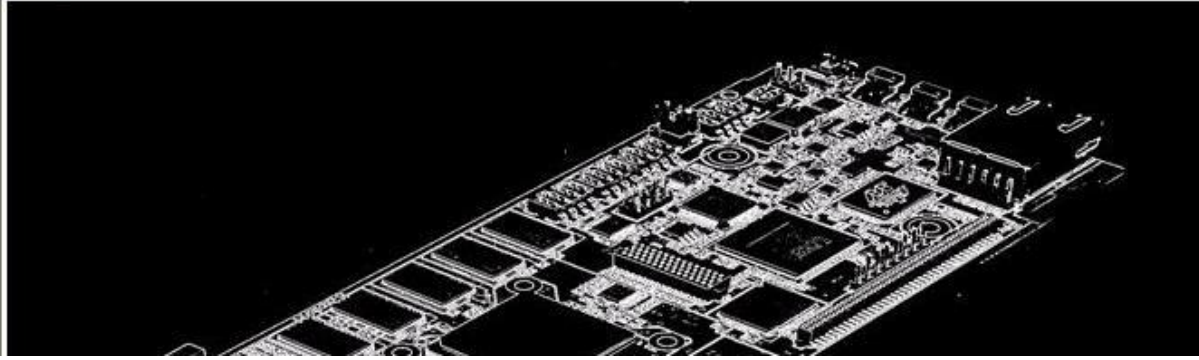

Figure 5-9 Image Processing Output Page
4. The output result is shown in Figure 5-9.